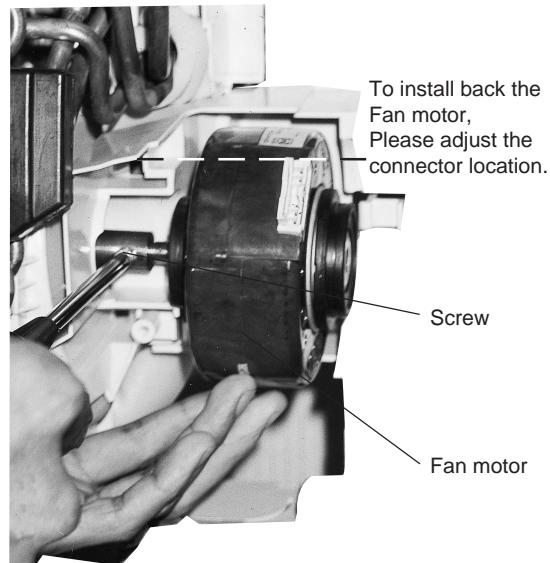

Fig. 5
- Finally remove the fan motor by removing the screw. (Fig. 5)
- REMINDER - To reinstall the fan motor, adjust the connector of the fan motor as Figure 5.